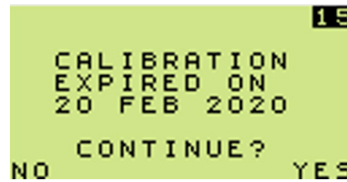

Figure 9: Calibration Overdue
4. Cal Due enabled - if overdue, message is displayed as shown in Figure 9: Calibration Overdue and the user is required to acknowledge the message before continuing the warm-up.